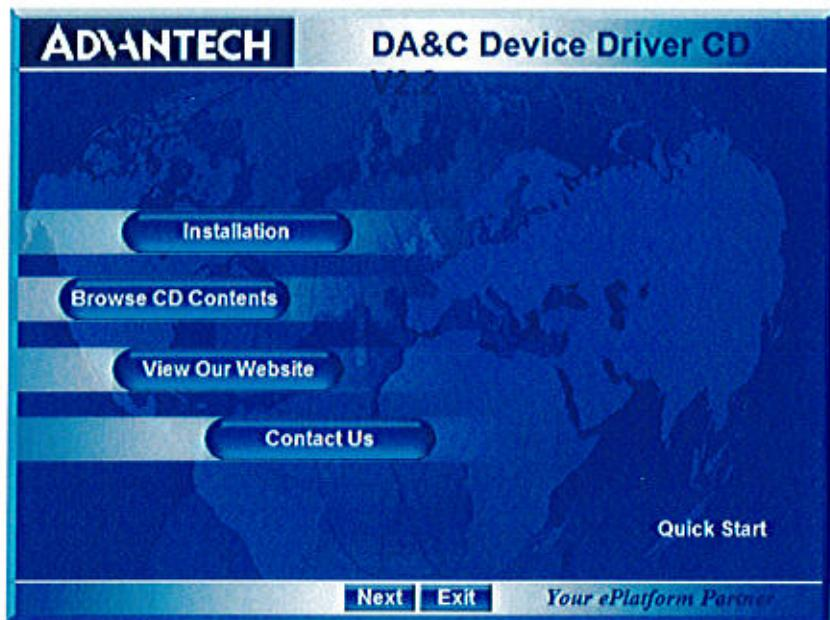

Figure 3 Installation Menu
2. Press 'CONTINUE' to enter the installation menu (Figure 3).